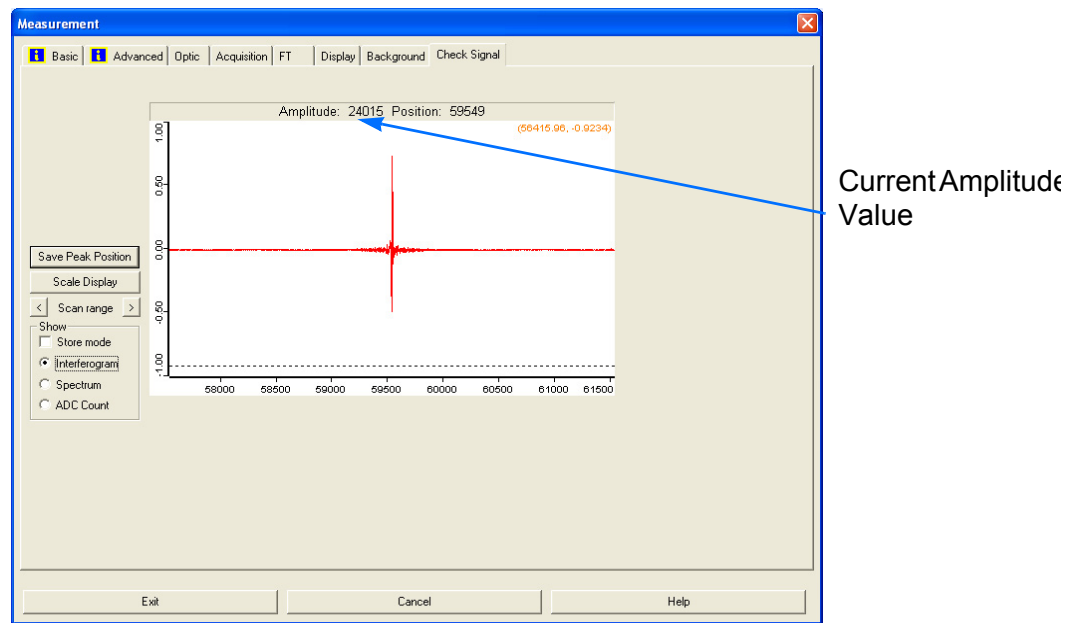

Figure 28: Checking the Signal
- Load an existing standard experiment file (*.xmp) for reflectance measurements with the microscope. Then click on the *Check Signal* tab. See figure 28. (For detailed information about this dialog window refer to the OPUS Reference Manual.)
- To find out whether the displayed signal is sufficient, compare the displayed amplitude value (see figure 28) with the one written down in the form *Hyperion MIR Acceptance Measurements*. (You will find this form in the blue ring binder containing the final test results delivered with the microscope.) Both values should be more or less the same.